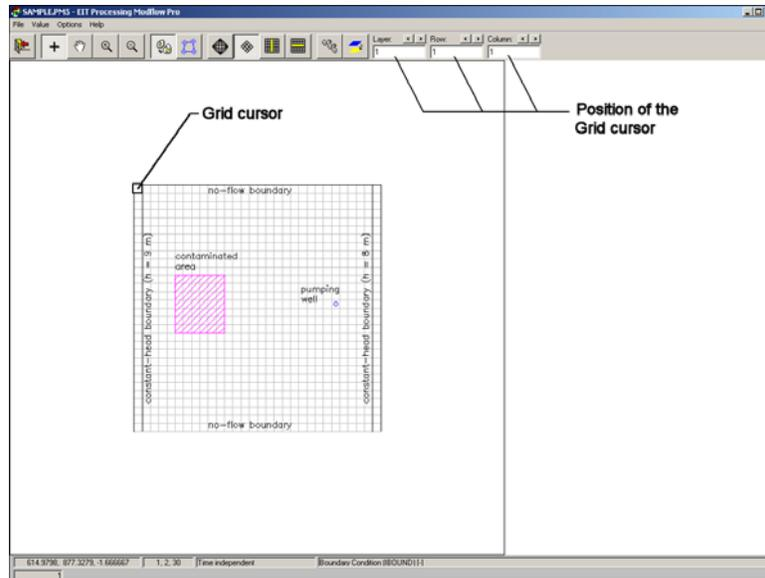

Fig. 1.6. The Data Editor displaying the plan view of the model grid
1. Select *Grid | Boundary Conditions | IBOUND (Modflow)*. The Data Editor of *PMWIN* appears and displays the model grid (Fig. 1.6). A *grid cursor* is located over the current cell. The value of the current cell is shown at the bottom of the status bar. The default value of the IBOUND array is 1. The grid cursor can be moved by using the arrow keys, by clicking the mouse on the desired position, or by using buttons in the tool bar. To jump to another layer, click the Layer edit box in the tool bar, type the new layer number, and then press enter. Note. A DXF-map is loaded by using the Maps Options dialog box. See Help Section for details.